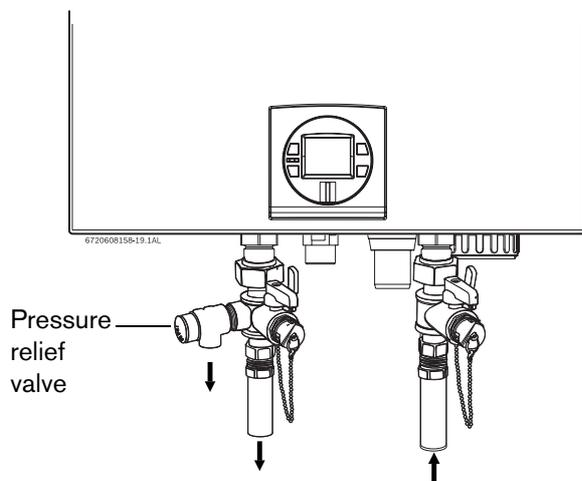

Fig. 16 Plumbing Connections (with shutoff valves) and Pressure Relief Valve
- ▶ **Full port shutoff valves should be installed on both the cold water supply and hot water outlet lines to facilitate servicing the heater (see Fig. 16).**
The location of the PRV must be readily accessible for servicing or replacement, and be mounted as close to the water heater as possible. See Fig. 16. To install the PRV, a suitable fitting connected to an extension on a "T" fitting can be sweated to the hot water line. Support all piping.